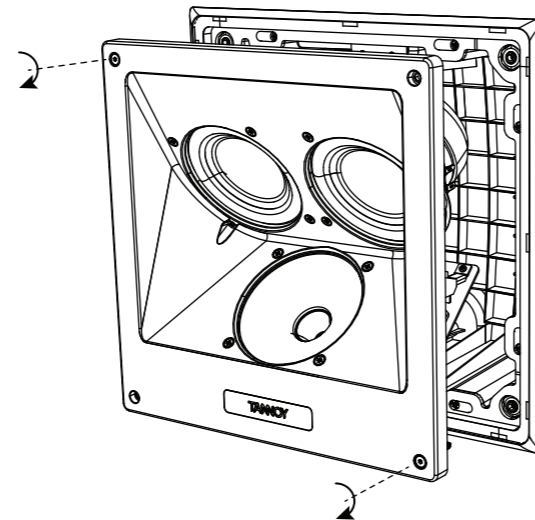

Fig. 20. Install the loudspeaker
3. Install the loudspeaker into the back can and secure it in place with the screws (Fig.20).